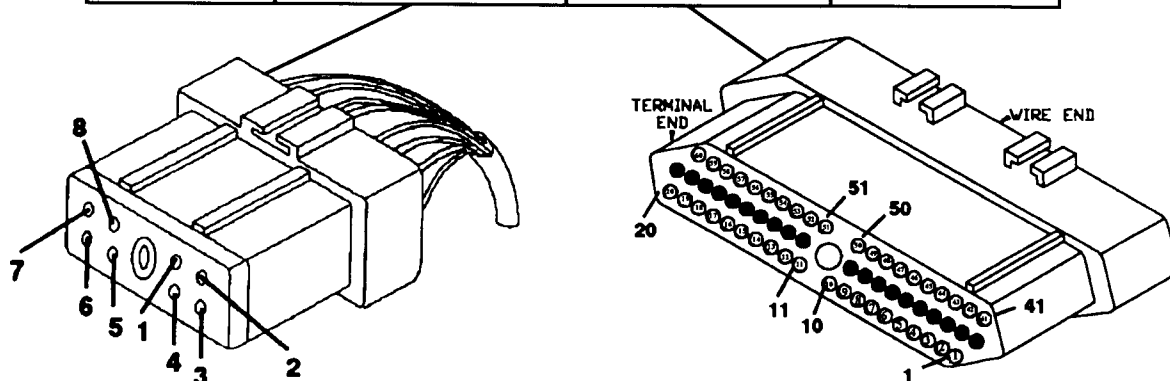

Figure 52
- If when performing the above check an open is seen on one of the solenoid wires, use Figure 52 to perform a continuity check on the wire in question. If it is determined that the wire is severed, a new wire can be run and spliced in outside the harness.